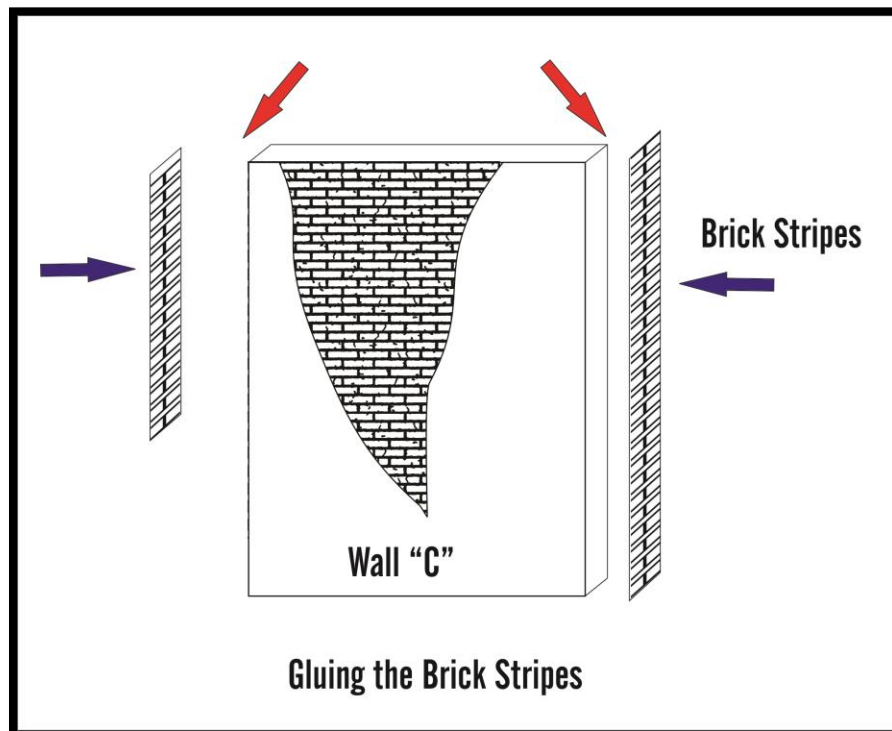

FIGURE 2 – APPLYING BRICK PATTERN STRIP
The walls of your kit are cut from MDF with the brick pattern etched to the front surface. As a result the side of the wall section of the rear of the building (C) require adding the brick pattern. As show in the Figure 2, apply the supplied brick pattern strip to the sides of the rear wall using carpenter glue.